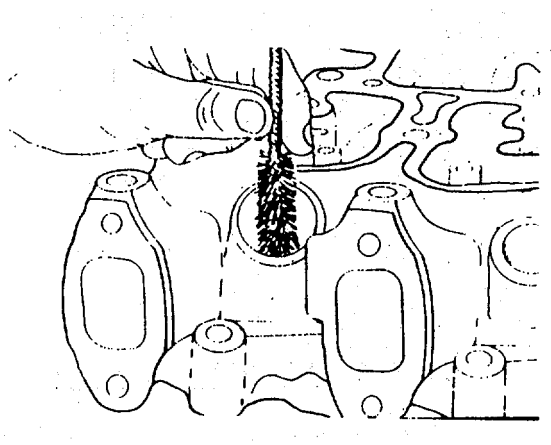

FIGURE 4-7. Cleaning Injector Nozzle Seat.
- a. Clean the carbon from injector nozzle seat with nylon or brass brush as shown in FIGURE 4-7.
- f. Inspect valve springs (3, FIGURE 4-7).
- (1) Measure each valve spring.